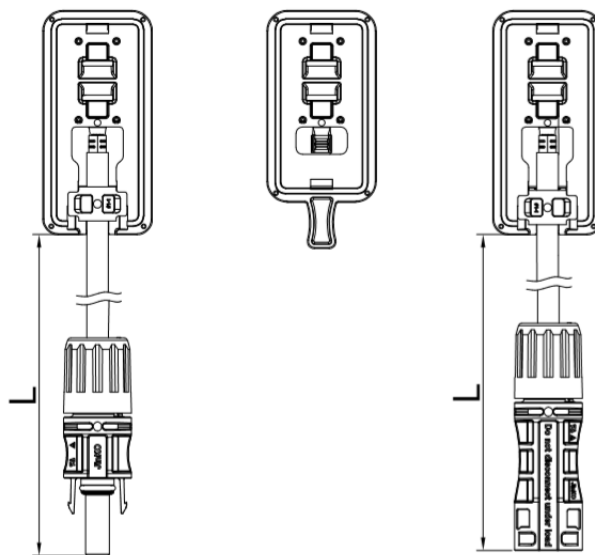

Fig. 13 The half-cut cell module/ split junction box
- l) The length of the junction box shall be determined according to the component specifications and the customer's design proposal. As shown in Figure 13 below, consider the length of the lead wire before designing the wiring.